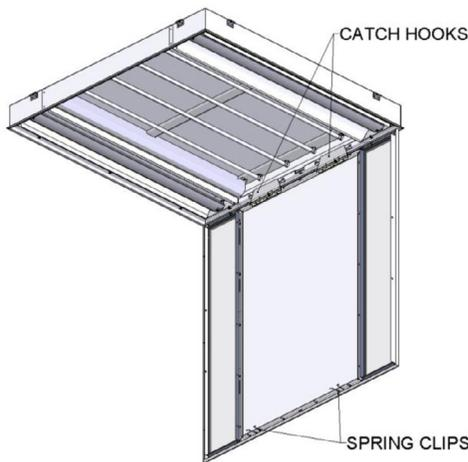

Figure 1 - Internal Door Hinge
22. With door hanging vertically, grasp sides of door frame and lift vertically to disengage the door catch hooks from the housing. The door is now detached from the fixture housing. See Figure 1.